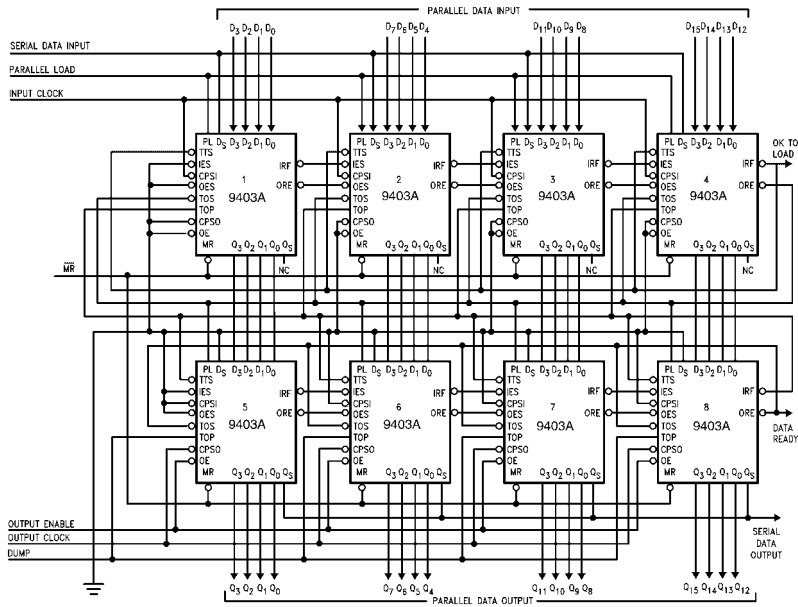
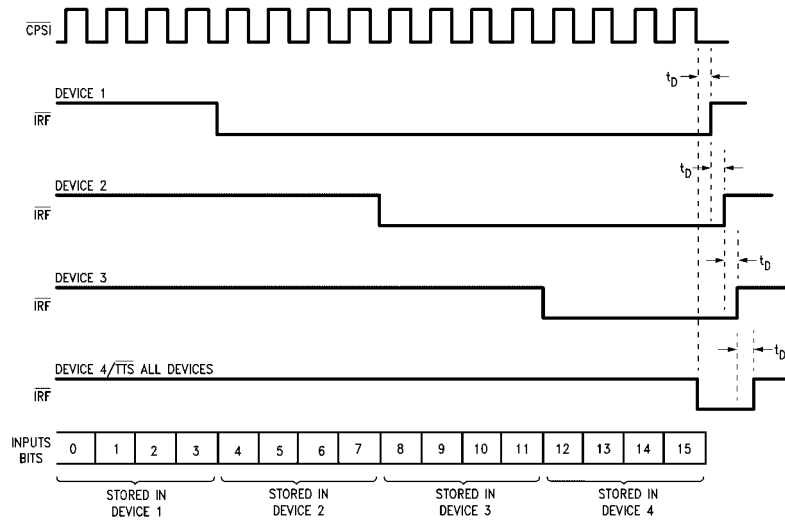
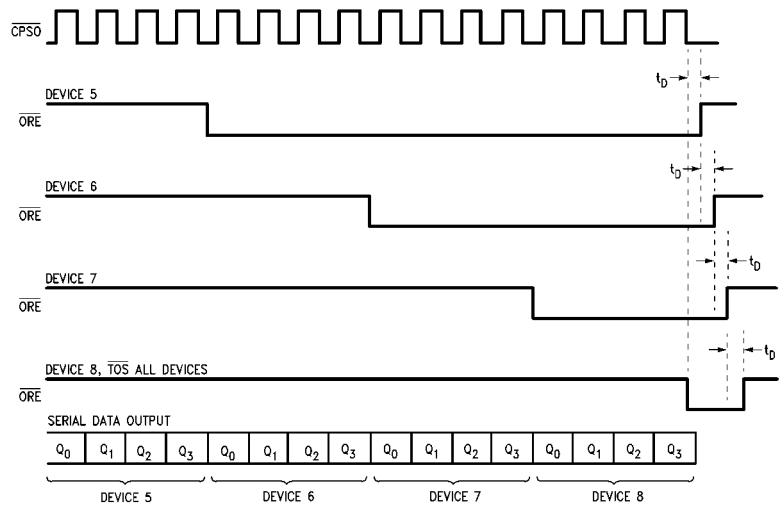
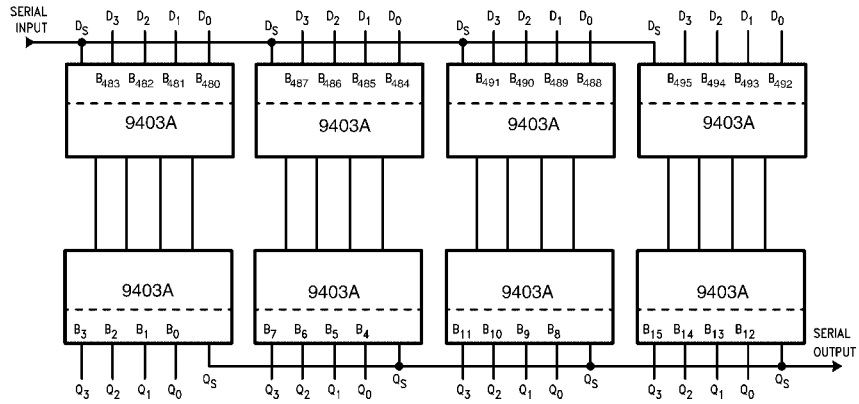

FIGURE 6. A 31x16 FIFO Array
FIGURE 7. Serial Data Entry for Array of Figure 6
FIGURE 8. Serial Data Extraction for Array of Figure 6
FIGURE 9. Final Position of a 496-Bit Serial Input
**Horizontal and Vertical Expansion**—The 9403A can be expanded in both the horizontal and vertical directions without any external parts and without sacrificing any of its FIFO's flexibility for serial/parallel input and output. The interconnections necessary to form a 31-word by 16-bit FIFO are shown in Figure 6. Using the same technique, any FIFO of  $(15m + 1)$ -words by  $(4n)$ -bits can be constructed, where  $m$  is the number of devices in a column and  $n$  is the number of devices in a row. Figure 7 and Figure 8 show the timing diagrams for serial data entry and extraction for the 31-word by 16-bit FIFO shown in Figure 6. The final position of data after serial insertion of 496 bits into the FIFO array of Figure 6 is shown in Figure 9.
In the 9403A array of Figure 6 devices 1 and 5 are defined as "row masters" and the other devices are slaves to the master in their row. No slave in a given row will initialize its Input Register until it has received LOW on its IES input from a row master or a slave of higher priority.